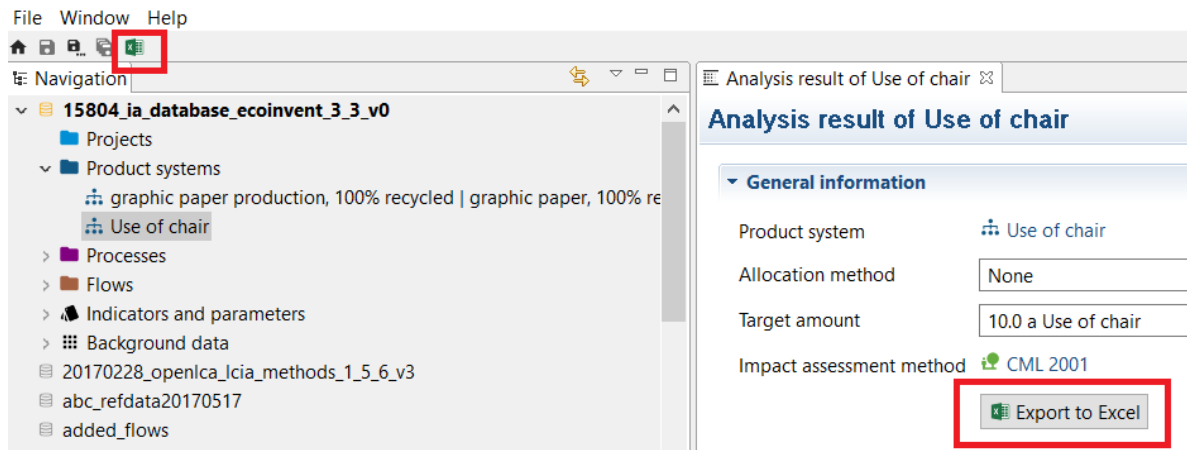

Figure 32: Exporting results as excel file
- To export quick results, analysis results, and Monte Carlo simulation results you can either click on the excel export icon in the top left-hand corner or select the "Export to Excel" button under the "General information" tab of the results editor (Figure 32).